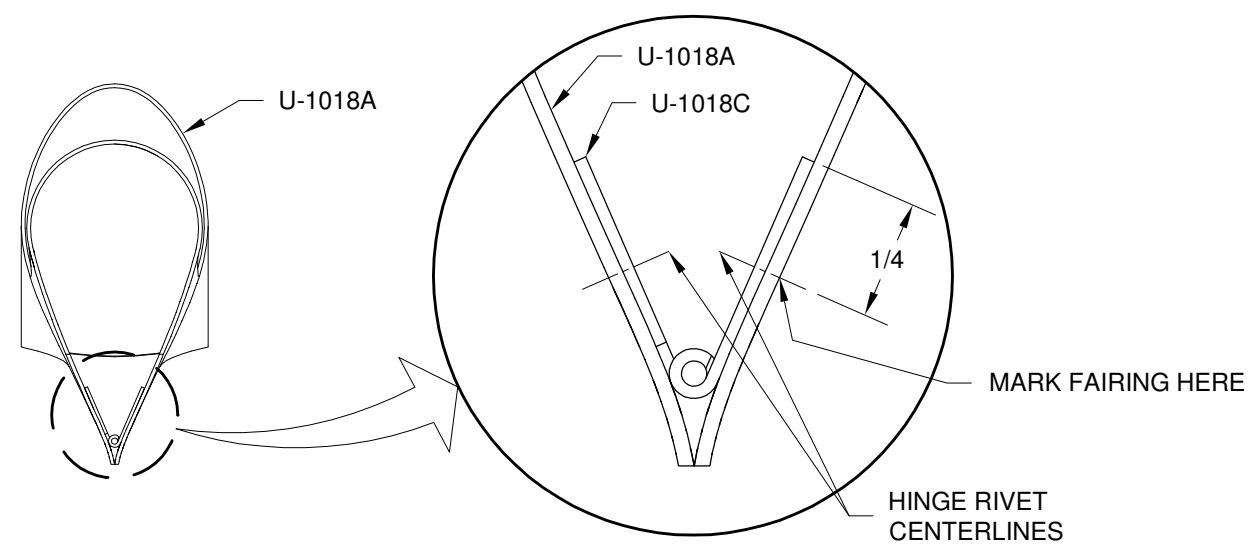

FIGURE 1:
Step 1: Make the U-1018C Nose Gear Leg Hinge from "piano hinge .063." Draw a rivet centerline the full length of the outside of both halves of the nose gear leg hinge as per the dimension shown in Figure 1. Nest the hinge into the U-1018A Nose Gear Leg Fairing (referred to hereafter as "fairing") as shown allowing it to extend beyond both ends of the fairing. Transfer the centerline mark from the hinge to the fairing at the fairing ends where the hinge hangs out.